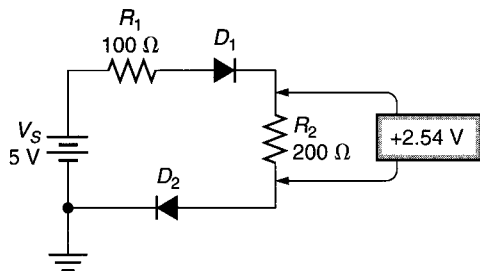

FIGURE 2.46
17. Ignoring the presence of the meter, calculate the value of  $V_{R2}$  for the circuit shown in Figure 2.46. Then, determine the percentage of error between your calculated value and the meter reading shown.